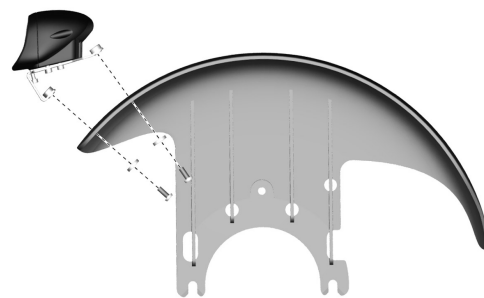

Figure 461. The front light. It is attached with two screws from underneath.
1. Assemble the front light using the two screws from underneath. See fig. 461.